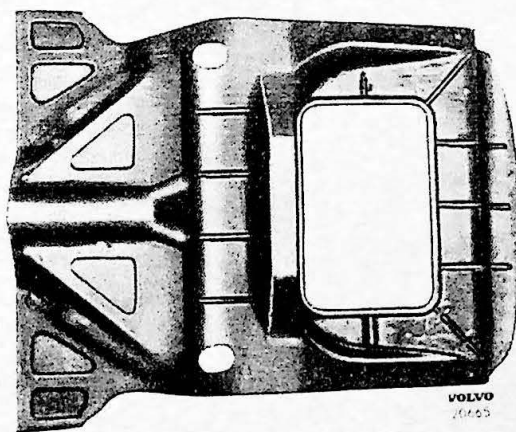
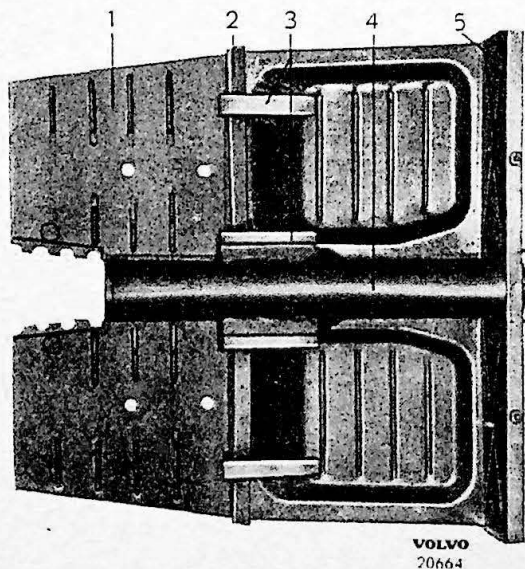

Fig. 3.
Fig. 2.
member (5) forms the support for the front edge of the rear seat. The tunnel (4) for the propeller shaft is spot-welded to the floor plates. The rear floor plate (Fig. 3) is strengthened underneath on each side by means of a longitudinal reinforcement member with a cross member between. This cross member is fitted with an attachment device for the rear axle track bar. In the rear
The floor section consists of the forward (1, Fig. 2) and rear floor plates (Fig. 3), the forward and rear cross members and the tunnel. The floor plates are spot-welded together at the rear cross member. On the forward cross member (2) are four brackets (3) which serve as supports for the front seat adjuster slide rails. The rear cross